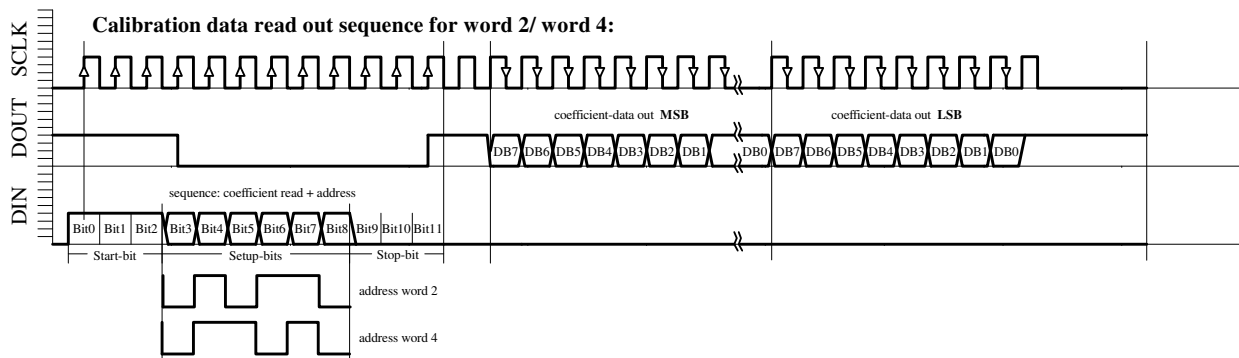

Fig. 6d: W2, W4 READING sequence.
- Calibration data read-out sequence for Word2 (Figure 6d)
- Calibration data read-out sequence for Word4 (Figure 6d)